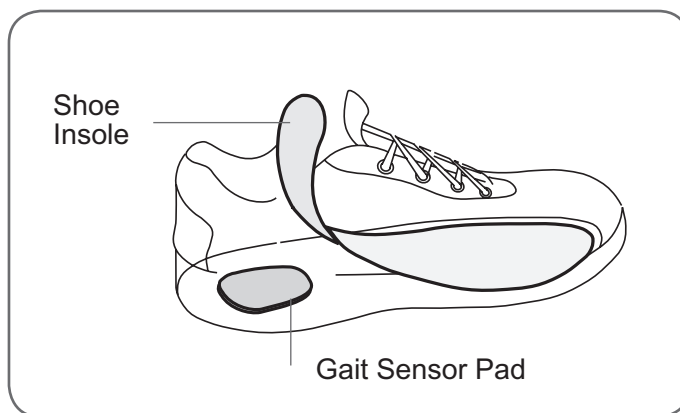

Figure 7-7: Lifting the insole and attaching a gait sensor pad.
1. Lift the insole of the shoe, and attach a gait sensor pad under the insole, at the heel of the shoe. Make sure the gait sensor pad is in the same location as initially fitted by your clinician. See Figure 7-7.